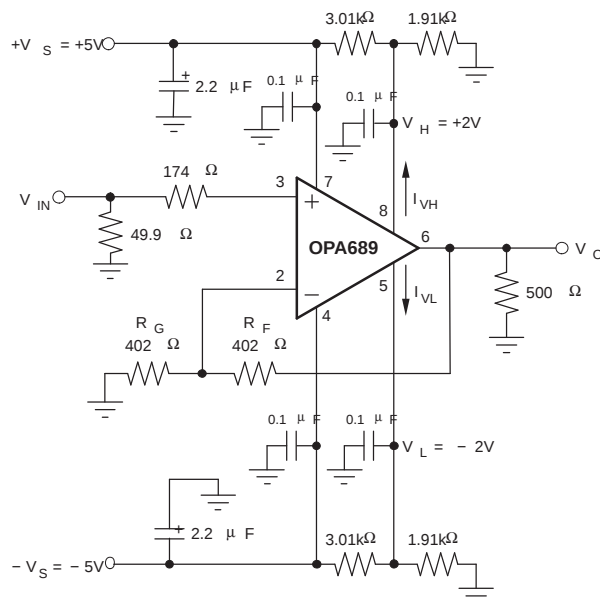
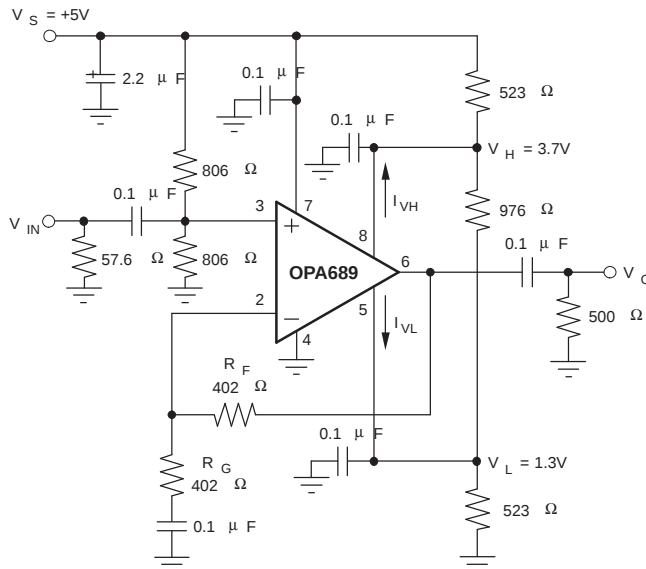

Figure 30. DC-Coupled, Dual Supply Amplifier
Figure 31. AC-Coupled, Single Supply Amplifier
(3) I_{VH} (V_H bias current) is positive and I_{VL} (V_L bias current) is negative under these conditions (see Note 3, Figure 31, and Figure 37).
(4) Limiter feedthrough is the ratio of the output magnitude to the sinewave added to V_H (or V_L) when $V_{IN} = 0$.
(5) Current is considered positive out of node.
(6) V_H slew rate conditions are $V_{IN} = 0.7\text{ V}$, $G = 6$, $V_L = -2\text{ V}$, $V_H = \text{step between } 2\text{ V and } 0\text{ V}$. V_L slew rate conditions are similar.
Figure 30 shows a non-inverting gain amplifier for dual-supply operation. This circuit was used for AC characterization of the OPA689, with a 50- Ω source, which it matches, and a 500- Ω load. The power-supply bypass capacitors are shown explicitly in Figure 30 and Figure 31, but will be assumed in the other figures. The limiter voltages (V_H and V_L) and their bias currents (I_{VH} and I_{VL}) have the polarities shown.
Figure 31 shows an AC-coupled, non-inverting gain amplifier for single 5-V supply operation. This circuit was used for AC characterization of the OPA689, with a 50- Ω source, which it matches, and a 500- Ω load. The power-supply bypass capacitors are shown explicitly in Figure 30 and Figure 31, but will be assumed in the other figures. The limiter voltages (V_H and V_L) and their bias currents (I_{VH} and I_{VL}) have the polarities shown. Notice that the single-supply circuit can use three resistors to set V_H and V_L , where the dual-supply circuit usually uses four to reference the limit voltages to ground.
voltages can break down internal junctions, possibly leading to catastrophic failure. Single-supply operation is possible as long as common mode voltage constraints are observed. The common mode input and output voltage specifications can be interpreted as a required headroom to the supply voltage. Observing this input and output headroom requirement will allow design of non-standard or single-supply operation circuits. Figure 31 shows one approach to single-supply operation.
When the limiter voltages are more than 2.1 V from the supplies ($V_L \geq -V_S + 2.1$ V or $V_H \leq V_S - 2.1$ V), you can use simple resistor dividers to set V_H and V_L (see Figure 30). Make sure you include the Limiter Input Bias Currents (Figure 37) in the calculations (i.e., $I_{VL} \geq 50$ µA out of pin 5, and $I_{VH} \leq 50$ µA out of pin 8). For good limiter voltage accuracy, run at least 1-mA quiescent bias current through these resistors.
When the limiter voltages need to be within 2.1 V of the supplies ($V_L \leq -V_S + 2.1$ V or $V_H \geq V_S - 2.1$ V), consider using low impedance buffers to set V_H and V_L to minimize errors due to bias current uncertainty. This will typically be the case for single supply operation ($V_S = 5$ V). Figure 31 runs 2.5 mA through the resistive divider that sets V_H and V_L . This keeps errors due to I_{VH} and I_{VL} $< \pm 1\%$ of the target limit voltages.